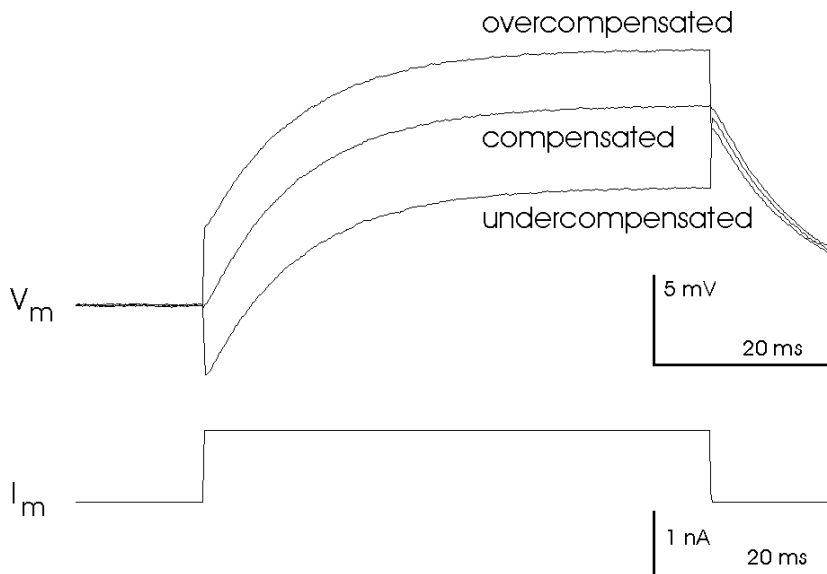

Figure 12: Adjustment of the bridge balance after penetrating a cell
- If necessary readjust the BRIDGE BALANCE as shown in Figure 12.